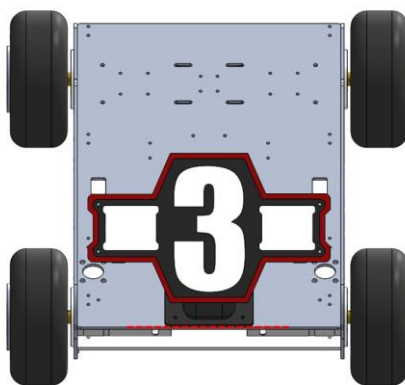

Fig 4-1 Health Bar Installation
a. Mounting bases for health bars will be provided by the organizing committee. The base must be rigidly connected to the robot body. Any modification to the base or health bar is prohibited. The base must be mounted at the center of the Manual Robot's rear edge, with a height of 60 mm~160 mm to ground. Wheels cannot be higher than the lowest point of health bar. Details of the installation are illustrated in Fig 4-1.